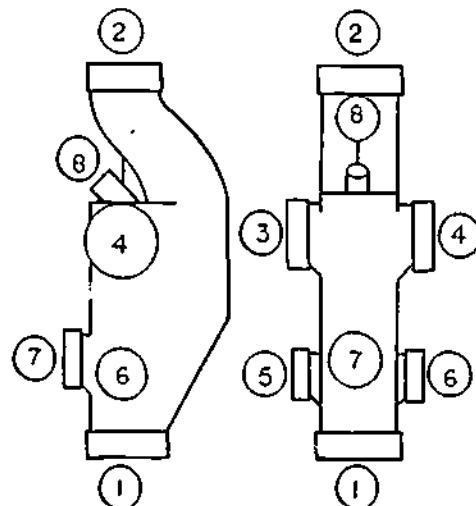

Figure 37-2. Sovent Aerator
11. The Sovent aerator (Figure 37-2) comprises an offset, a mixing chamber, one or two soil inlets, one, two, or three waste inlets, and one or more baffles.
13. In North America, aerators are regulated by Standard B16.32 of the American National Standards Institute. They are designated by the size of openings in the sequence as shown in Figure 37-2.
14. The numbers may be remembered by turning face-inlet 7 toward you and numbering from left to right, taking the upper ones first. Inlet 8 is a pressure-equalizing line (PEL) connection, which is seldom needed. The basic dimensions of common sizes of aerators are shown in Table 37-1. The position of waste inlets 5, 6, and 7 should be taken into account where waste branches cross within drop ceilings. The bracketed numbers in Table 37-1 correspond to those circled in Figure 37-2.